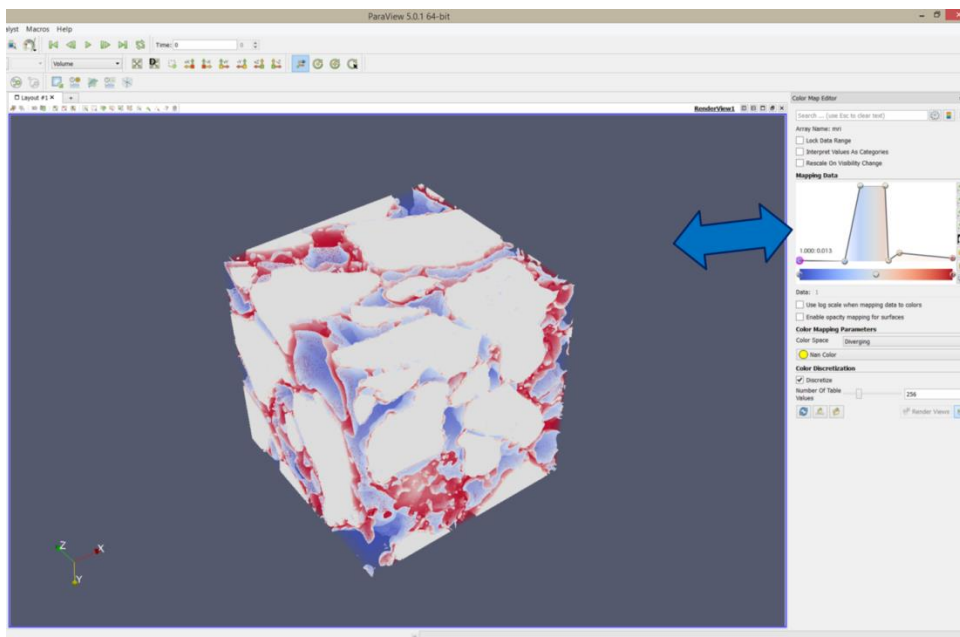

Figure 56: Gas volume in ParaView
- Figure 56: The **matrix phase** is extracted by **maximizing the gray phase** and **reducing the other phases**.